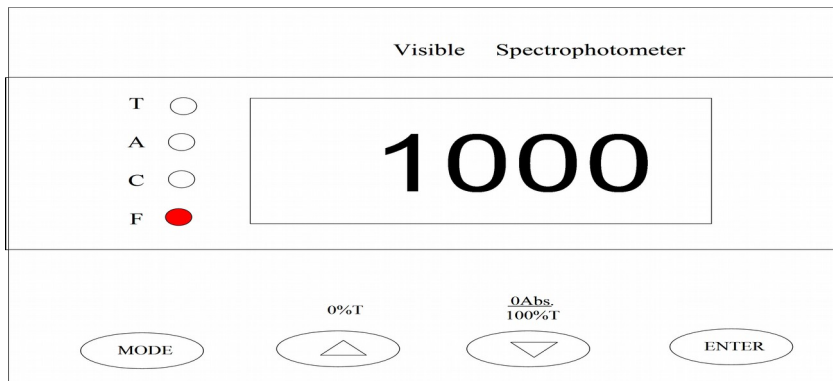

Fig.1-11
- b. To be used as the descending key (effective only in F mode). Press this key and the F value will decrease by 1 (Fig.1-11 & Fig.1-12). A long press will speed up the decrease. The Minimum Value of F is 1.